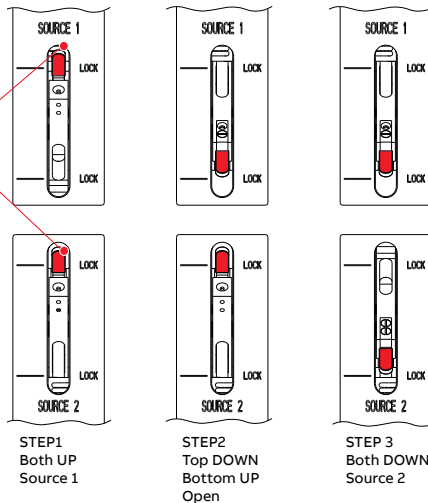

Fig. 4 Source Indicators
4. Toggle handle to positions indicated in Fig. 4 to achieve desired contact state.